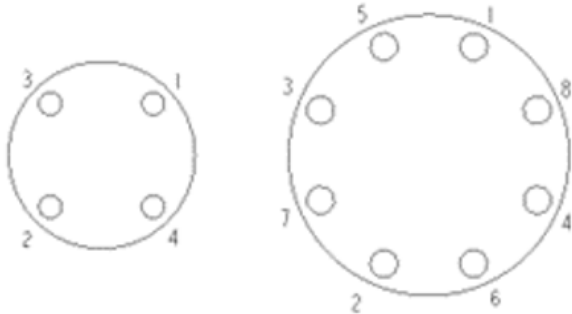

Figure 1: Bolt Tightening Sequence
- Flange bolts should be tight enough to compress the gasket and make a good seal, without distorting or putting excessive stress on the flanges. Suitable washers should be used between the bolt head and flange and the nut and flange. Bolts should be tightened in alternating sequence (Figure 1). See Table 1 for recommended torque.